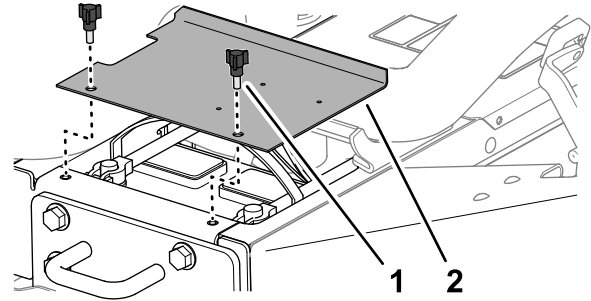

Figure 51
1. Release the latches at the left side and right side of the hood (Figure 51).